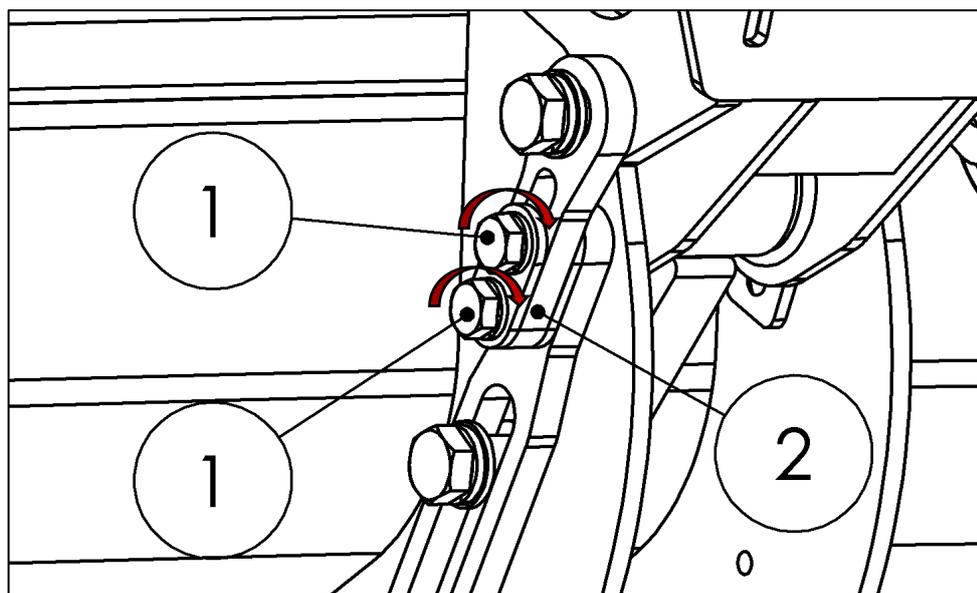

Figure 80
- Retighten the 2 screws (1) on the clamping plate (2) on the platform stop to a torque of 195 Nm (see Fig. 80).